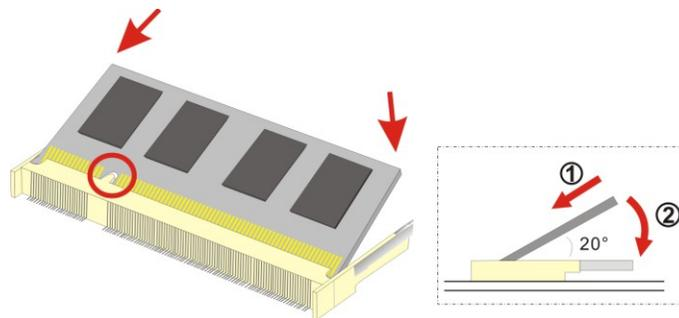

Figure 4-1: SO-DIMM Installation
To install a SO-DIMM, please follow the steps below and refer to **Figure 4-1**.
Step 3: **Insert the SO-DIMM.** Push the memory in at a 20° angle. (See **Figure 4-1**)
Step 4: **Seat the SO-DIMM.** Gently push downwards and the arms clip into place. (See **Figure 4-1**)